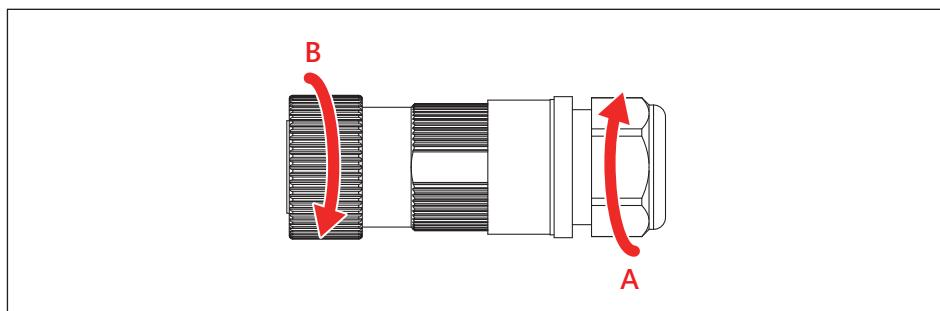

Figure 3-14 : Rotate the AC plug to fit
3. Rotate part A & B as **Figure 3-14** to fit and fix it onto the inverter.